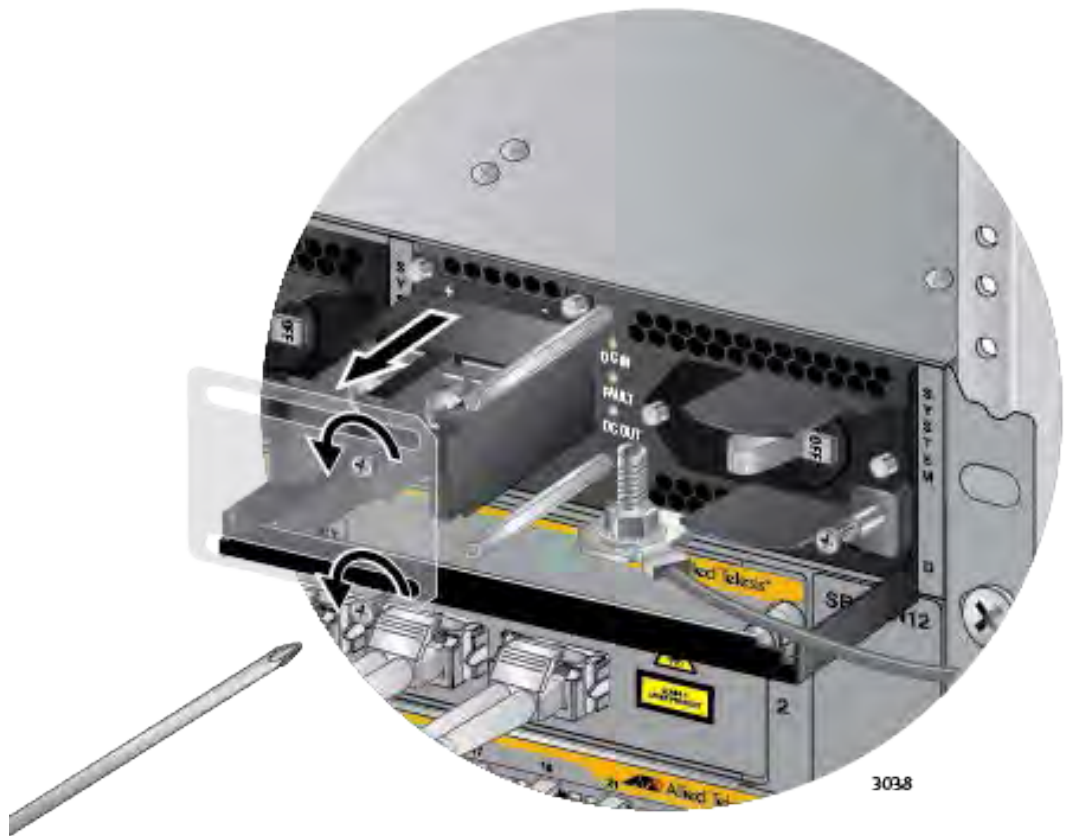

Figure 145. Removing the Plastic Cover
4. Using a #1 Phillips-head screwdriver, remove the two screws that secure the plastic cover over the positive and negative terminals and remove the plastic cover from the power supply, as shown in Figure 145. You may need to lift the locking handle slightly to access the bottom screw.